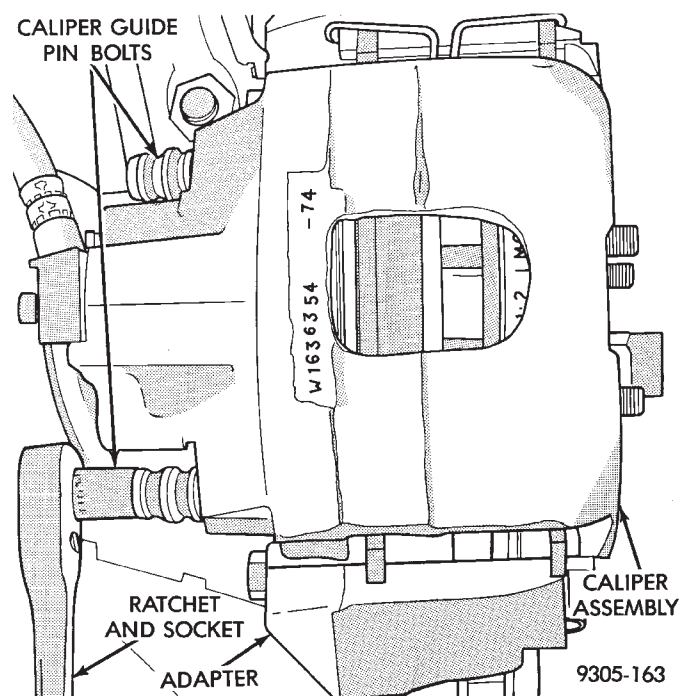

Fig. 1 Removing or Installing Caliper Guide Pin Bolts
(1) Raise vehicle on jackstands or centered on a hoist. See Hoisting in the Lubrication and Maintenance section of this manual.
(2) Remove front wheel and tire assemblies.
(3) Reach to the inside of the caliper assembly and pull it outboard as far as you can. This will push piston back into bore of caliper, making removal of caliper from adapter easier.
(4) Remove caliper guide pin bolts (Fig. 1).